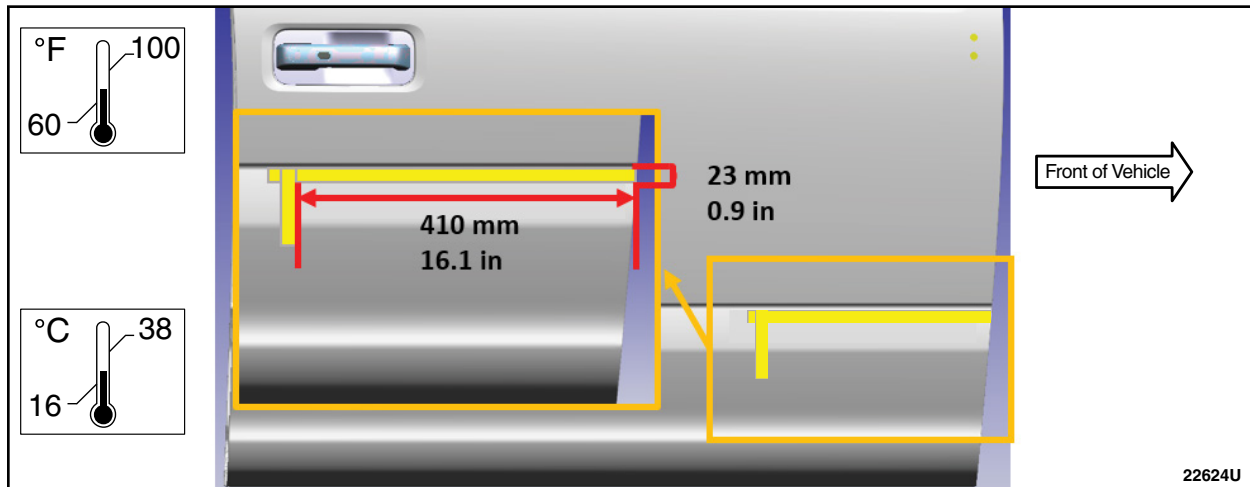

FIGURE 8
32. Measure and apply locating masking tape to the front RH door outer panel. See Figure 8.